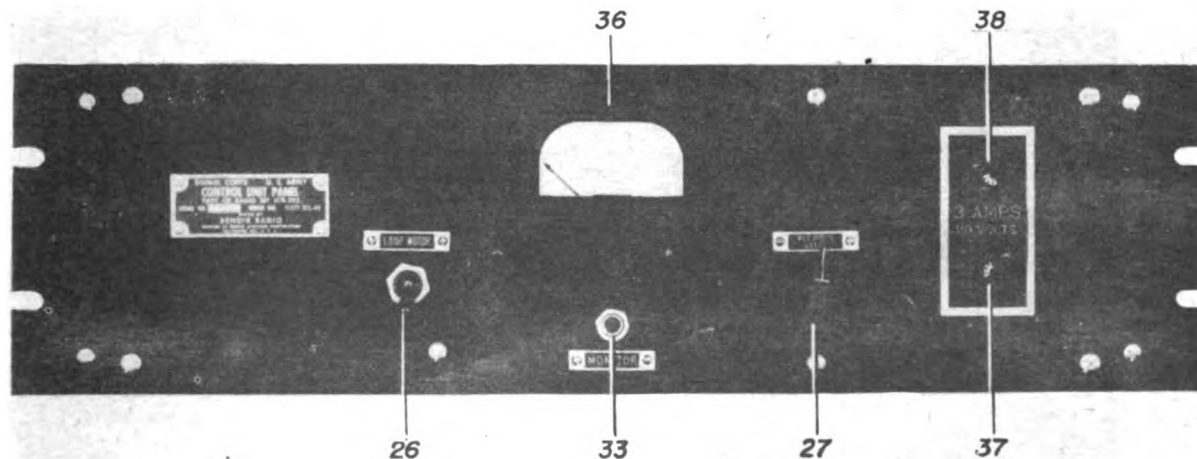

Figure 10—Control Panel, Front View
(8) One control panel, see figure 10, contains the circuits which couple the receiver to the recorder mechanism. These circuits comprise a low-pass filter for